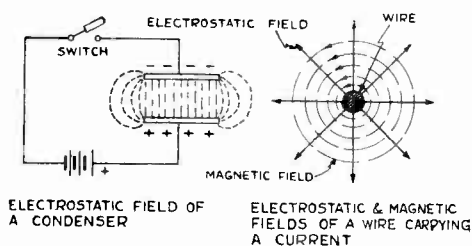

Fig. 23. Electro static fields.
The electrostatic lines of force, Fig. 23(A) and (B) are radial about the conductor, while the magnetic field is concentric about it. The two fields are always at right angles to each other. The strength of the electrostatic field depends upon the charges. In the antenna, when the current ceases to flow at the end of a cycle, the charge is greatest and the electrostatic field around it is maximum.